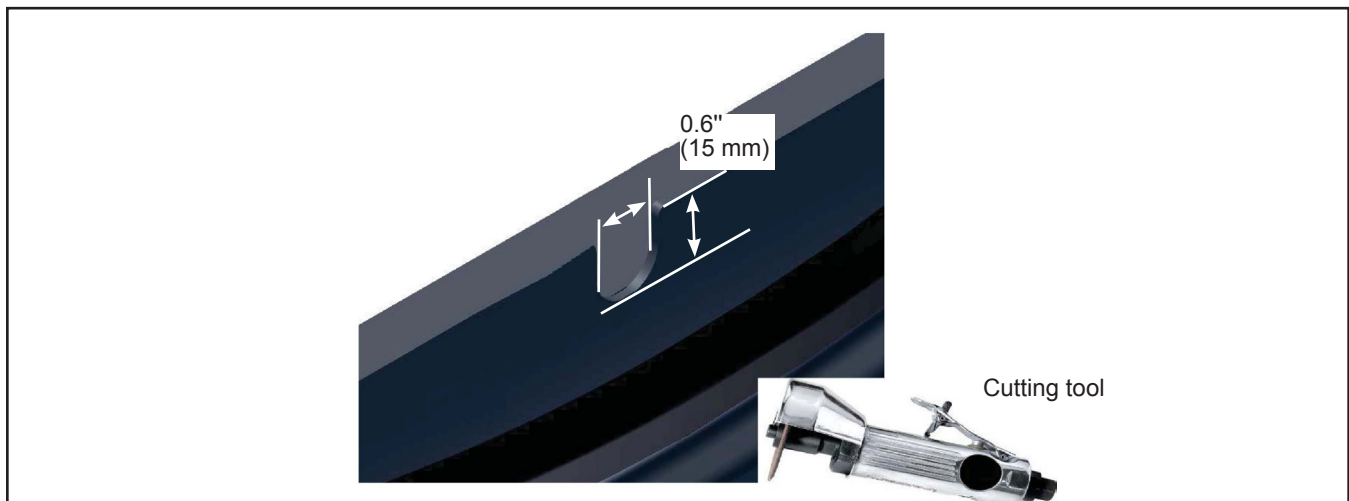

Figure 7 - Slot Steel Underframe
- 1.17. Slot the steel underframe. Use the drilled hole to center the slot. See Figure 7.